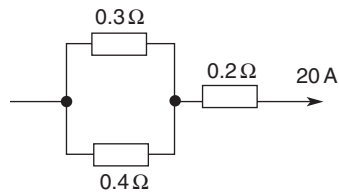

Fig. 28
30. The current flowing in the $0.4\ \Omega$ resistor in Figure 28 is